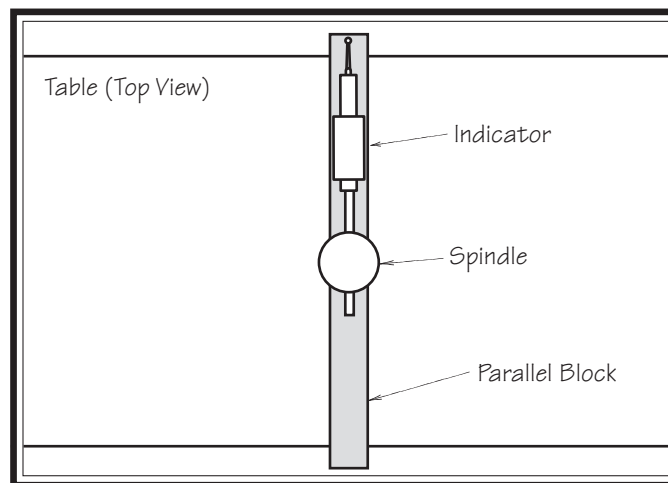

Figure 28. Parallel block positioned for the Y-axis measurement (top view).
8. Place the parallel block directly under the spindle and across the width of the table, as illustrated in **Figure 28**.
9. Rotate the spindle so that the indicator point rests on the parallel bar, as illustrated in **Figure 28**, then zero the dial.